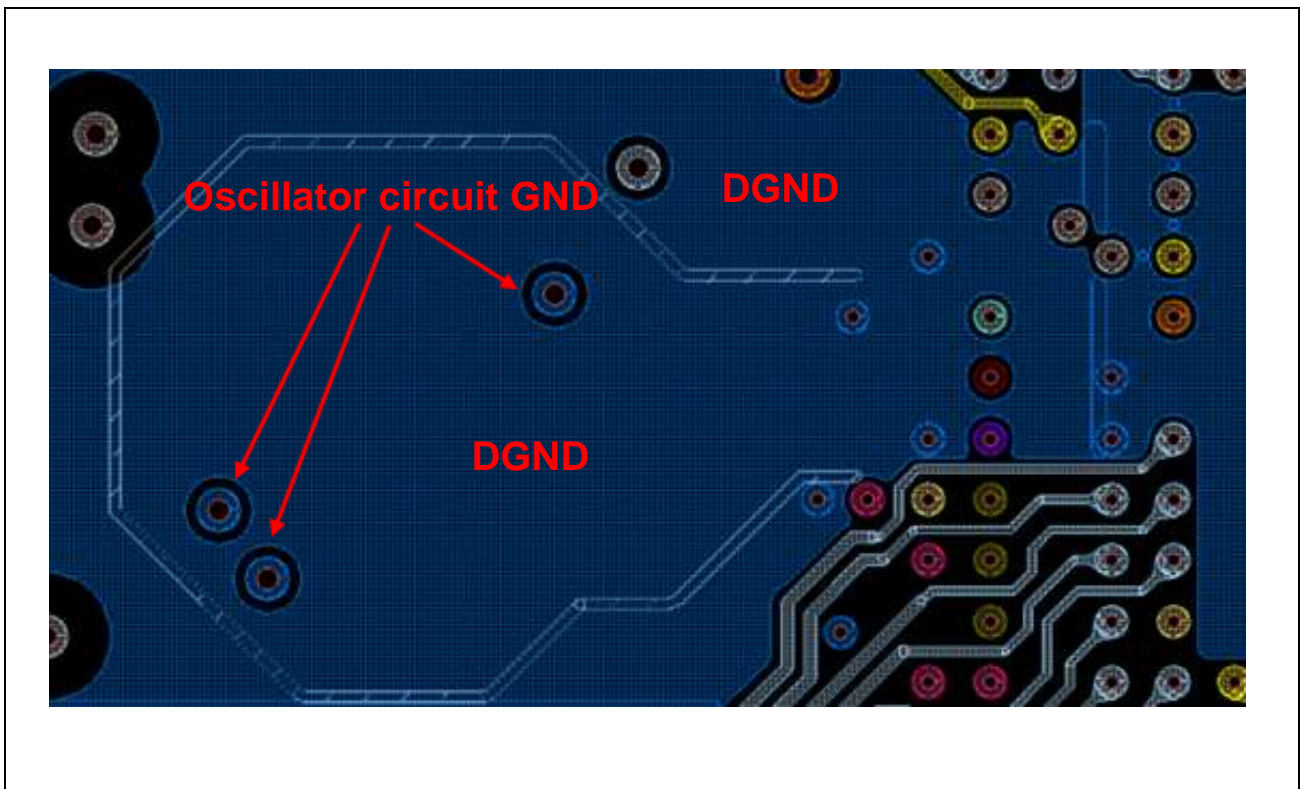

Figure 3.5 Example layout of the third layer (Layer3) of the PCB
**Figure 3.5** shows an example of the third layer of the PCB. The third layer is DGND, but the through-holes for the oscillation circuit GND are separated so that they do not become a common GND.